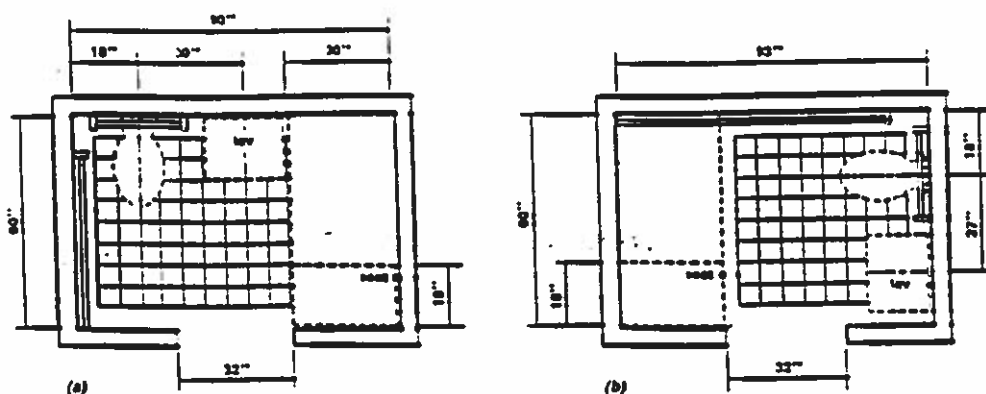

Fig. A7
**A4.23.3 Clear Floor Space.** Figure A7 shows two possible configurations of a toilet room with a roll-in shower. The specific shower shown is designed to fit exactly within the dimensions of a standard bathtub. Since the shower does not have a lip, the floor space can be used for required maneuvering space. This would permit a toilet room to be smaller than would be permitted with a bathtub and still provide enough floor space to be considered accessible. This design can provide accessibility in facilities where space is at a premium (i.e., hotels and medical care facilities). The alternate roll-in shower (Fig. 57b) also provides sufficient room for the "T-turn" and does not require plumbing to be on more than one wall.